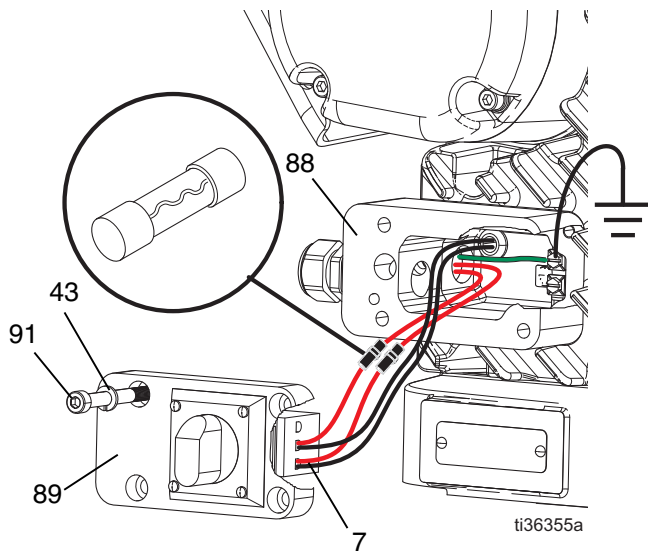

FIG. 10: Fuse Location
3. Remove four screws (91) and remove junction box cover (89) from driver to gain access to the disconnect block (7). See FIG. 10.